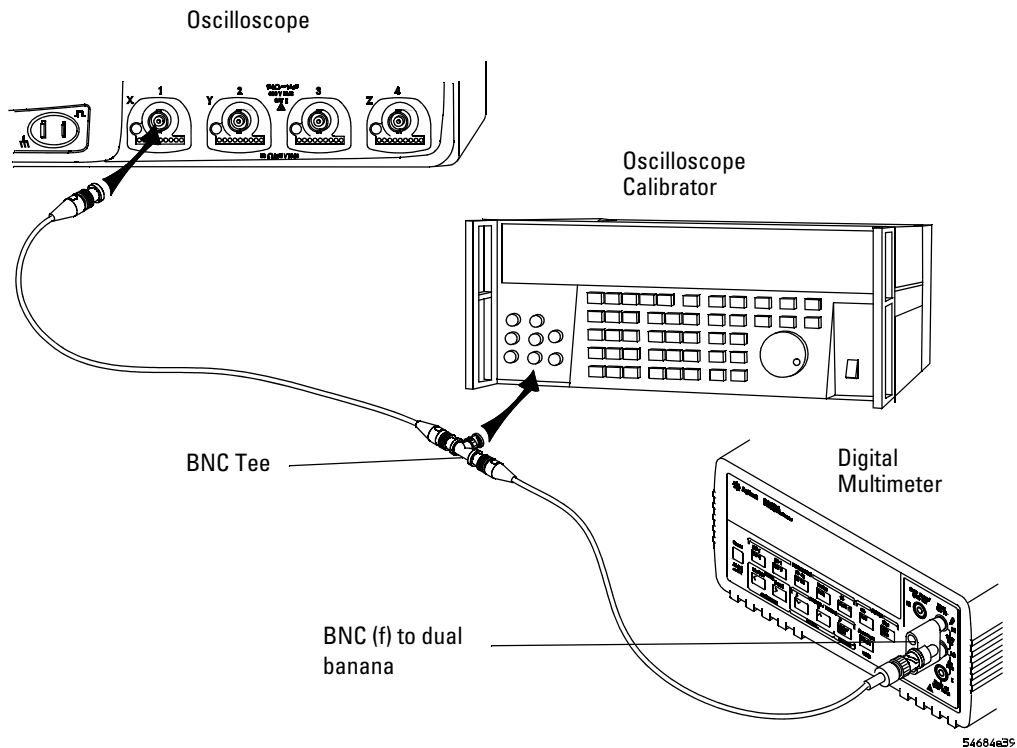

Figure 1 Connect equipment for voltage measurement accuracy test
- 3 Use the BNC tee and cables to connect the oscilloscope calibrator to both the oscilloscope and the multimeter (see Figure 1).